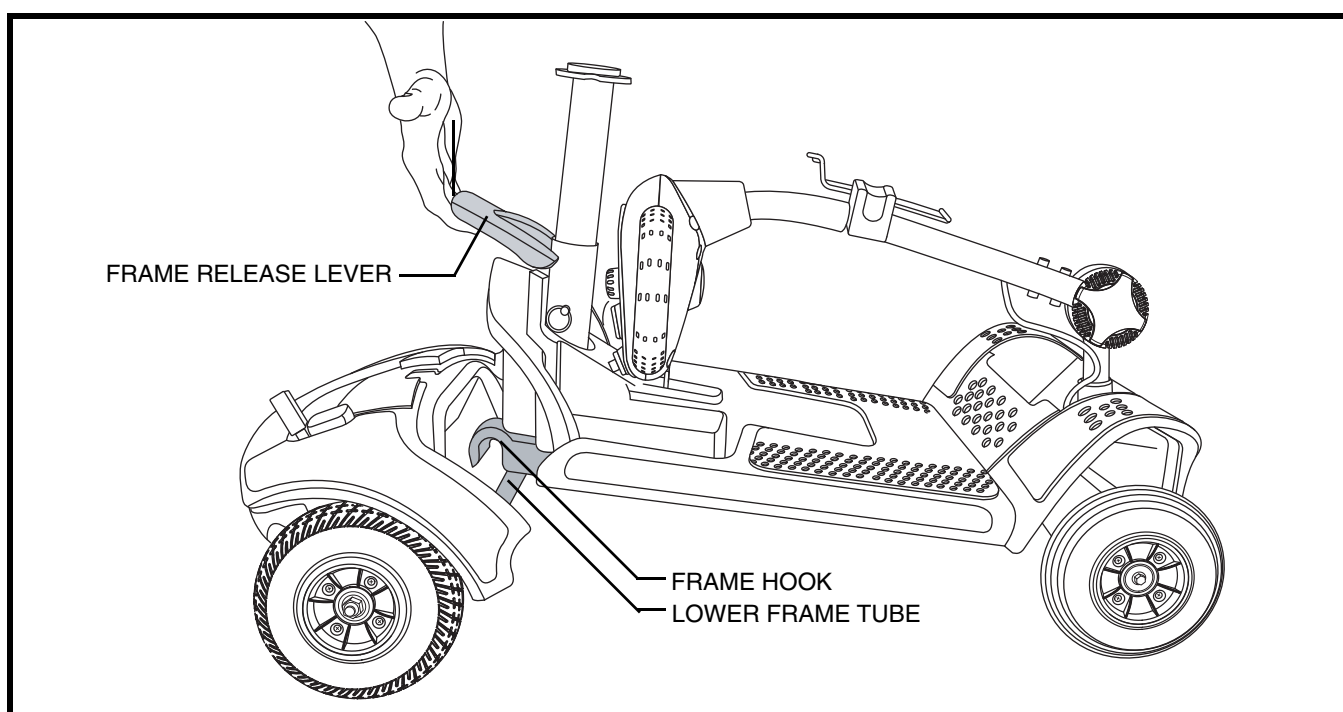

Figure 23. Frame Separation
2. Lift up on the frame release lever until the frame hooks are no longer resting on the lower frame tube. See **figure 23**.
1. Use the frame release lever to lift the front section as you align the frame hooks of the front section with the lower frame tube of the rear section. **See figure 23.**